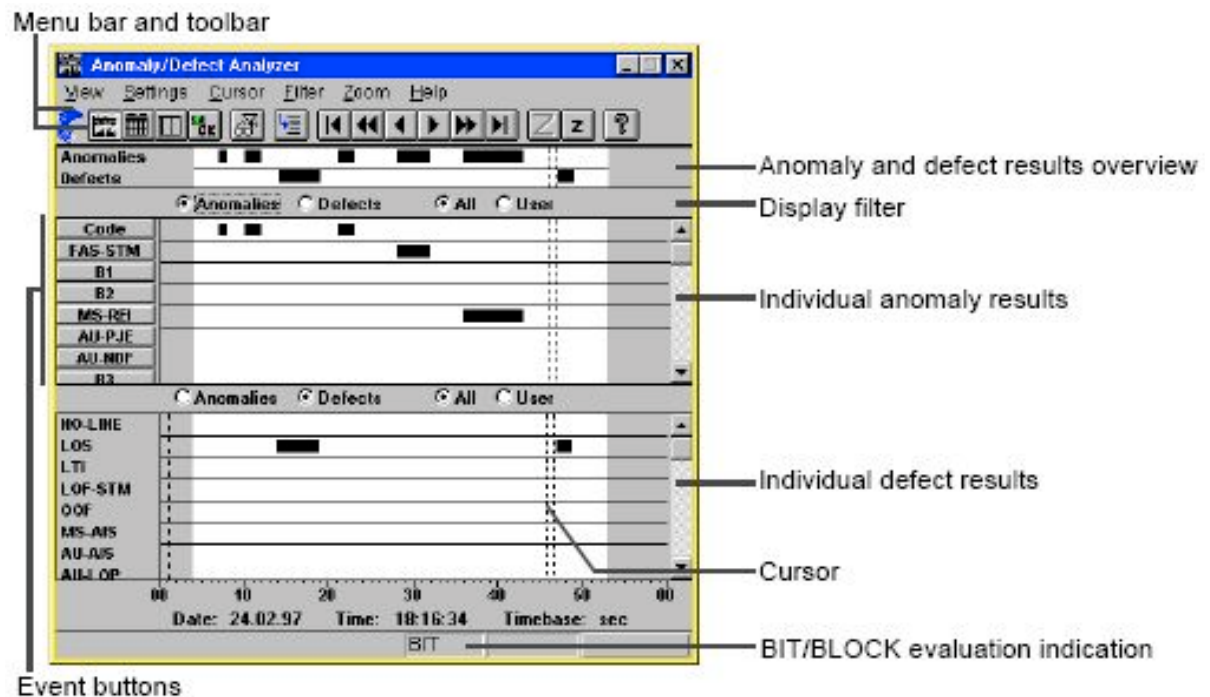

Fig.2-A Anomaly / Defect Analyzer window
- Click on 'Anomaly / Defect Analyzer VI' . After the VI boots up, the "Anomaly/Defect analyzer " window appears, as shown in fig.2-A
Icon (button) wise functions are listed in fig.2-B